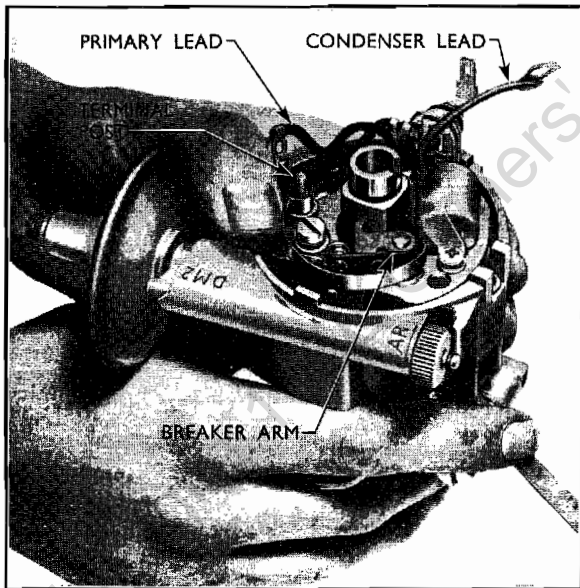

Fig. 3
2. Locate the fibre washer on the pivot post and breaker arm terminal post and refit the breaker arm assembly so that the contact points are together (see Fig. 3).